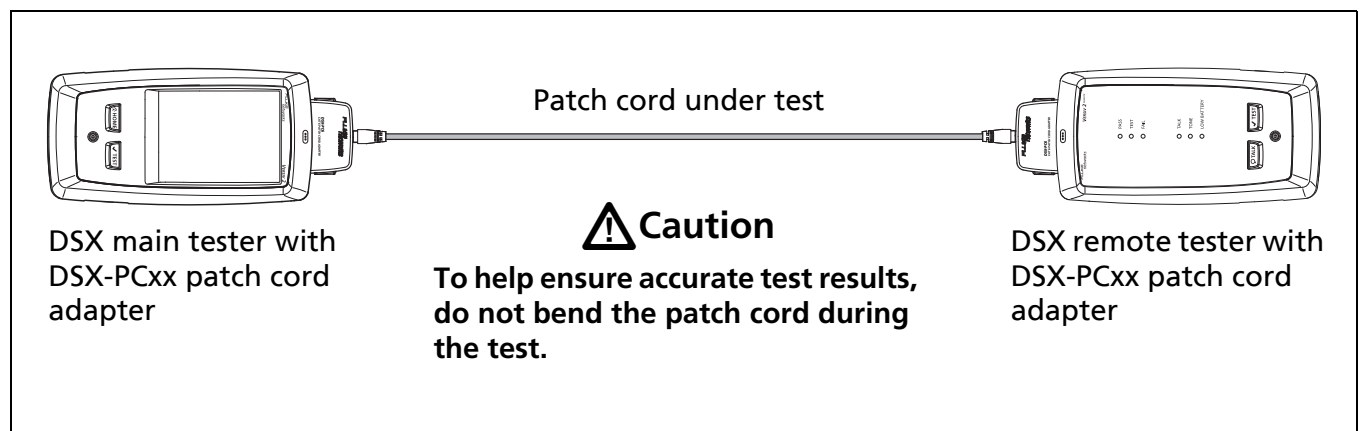

Figure 1. Patch Cord Test Connections
- 1 Connect the patch cord to the main and remote testers, as shown in Figure 1.